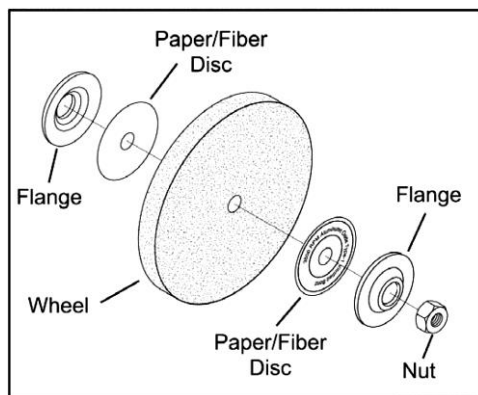

Fig. 11
5. Mount the new wheel in the reverse order or as shown in Figure 11. Always make certain there is a paper or fiber disc between the wheel flanges and the wheel itself. Tighten the nut snugly but DO NOT over-tighten. Over-tightening can crack the wheel.